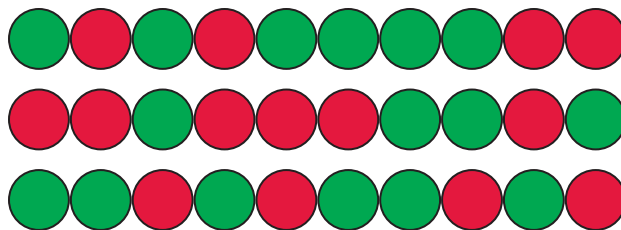

Figure 11: Cell Alignment Sequence
1. A perfect alignment process would alternate the two cell types to be fused. In general that does not occur in any known process. The way the cells align is a statistical event. If the cells all have the same radius and equal numbers of each are mixed, then (see Figure 11):